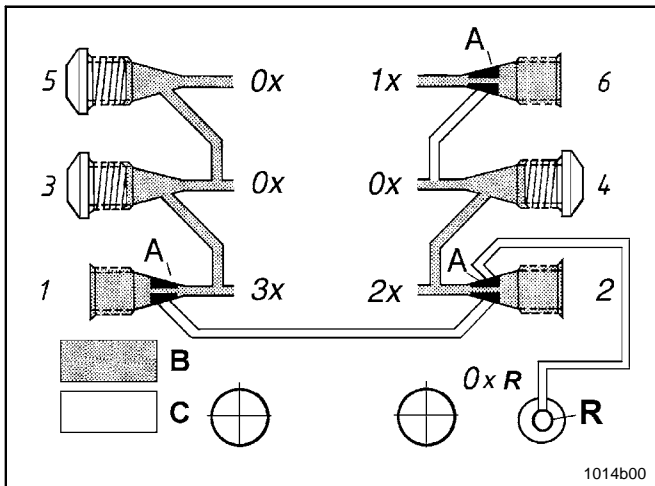

Fig. 1 Single double and triple lubricant output, on rear side mounted divider blocks
A single output is the lubricant quantity fed to the lube point by a piston per stroke and outlet port. **It amounts to approximately 0.2 cm3**, see outlet 6, fig. 1.
- Lubricant from a plugged outlet is redirected to the next outlet on the same side of the SSV divider block in descending numerical order (see fig. 1).
- Example, see fig. 1:
- Install a closure plug in each outlet port hole which is not required, see fig. 1 or 4.
- Closure are used in fig. 1 and 4 as follows:
- Fig. 1 outlets 3, 4 and 5
- All pumps with **back-mounted SSV divider block** have the capability to feed back unused lubricant internally from closed outlets directly to the reservoir (see R fig. 1, 4).
- The remaining outlets are to be used for the connection to the lube point or for increasing the lubricant quantity (double or triple), see fig.1.
To change the outlet 2 for bearing lubrication, replace closure plug with check valve (Fig. 3), **then never close outlet** (see page 7, fig. 1, pos. 1).